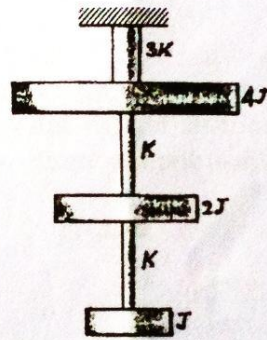

Fig. 6
- (b) Illustrate the use of the Holzer method using the example of the system shown in Fig.6.